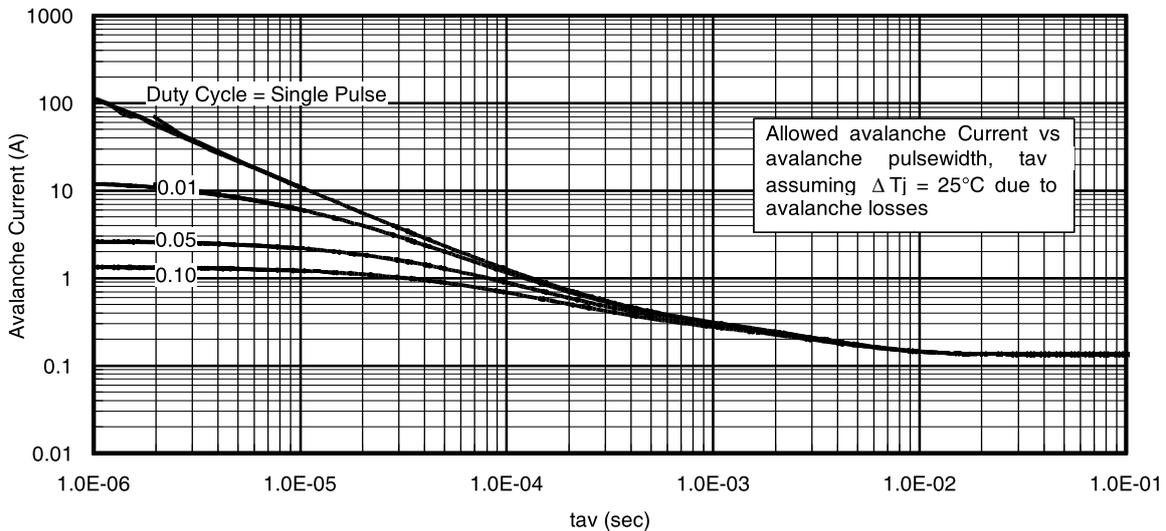

Fig 14. Typical Avalanche Current Vs. Pulsewidth
- ① Repetitive rating; pulse width limited by max. junction temperature.
- ② Starting T_J = 25°C, L = 1.62mH, R_G = 25Ω, I_{AS} = 11A.
- ③ Pulse width ≤ 400μs; duty cycle ≤ 2%.
- ④ R_θ is measured at T_J of approximately 90°C.
- ⑤ Limited by T_{Jmax}. See Figs. 14, 15, 17a, 17b for repetitive avalanche information.
Notes on Repetitive Avalanche Curves , Figures 14, 15:
7. ΔT = Allowable rise in junction temperature, not to exceed T_{jmax} (assumed as 25°C in Figure 14, 15).